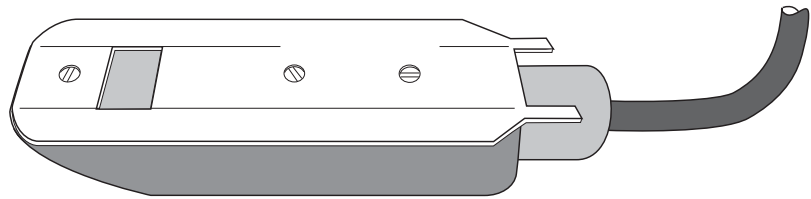

Figure 1-4 Standard and Extended Range Area Velocity Sensor
This section is applicable to both Standard and Extended Range Area Velocity (AV) Sensors (10' and 30' models). These sensors have an integral mounting plate (Figure 1-4) and no carrier is needed.